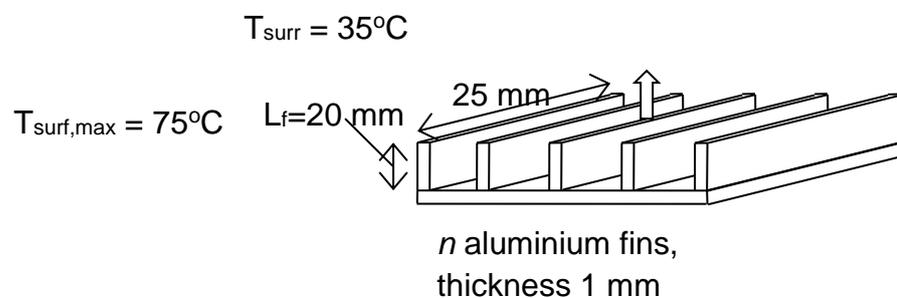

Figure Q1
- a) For cooling you will use fins mounted on the unit. The fins, 1 mm thick, are manufactured from aluminium ($k_{fin} = 50 \text{ W.m}^{-1}.\text{K}^{-1}$, $\rho = 2500 \text{ kg.m}^{-3}$); and their dimensions are shown in **Figure Q1**. The heat transfer coefficient for free convection from the finned surface (based on the height of the fins) is $35 \text{ W.m}^{-2}.\text{K}^{-1}$. Calculate the efficiency of a single fin, assuming that heat transfer from the fin tip is negligible. [8 marks]